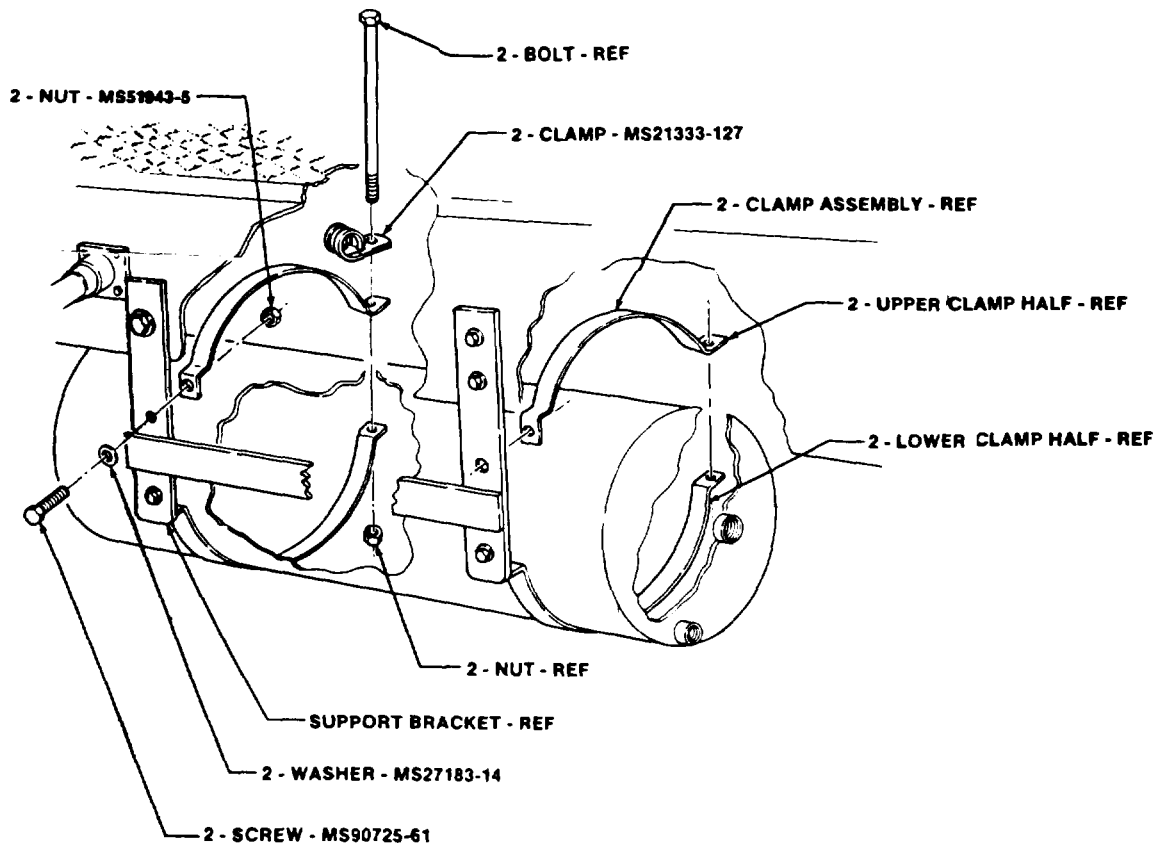

FIGURE 11
(2) Install upper half of two clamp assemblies to support bracket and secure with two MS90725-61 screws, MS27183-14 washers, and MS51943-5 nuts as shown in figure 11.
(3) Install two MS21333-127 clamps on two bolts and install bolts through upper and lower clamp halves and secure with two nuts as shown in figure 11. Tighten nuts finger tight.